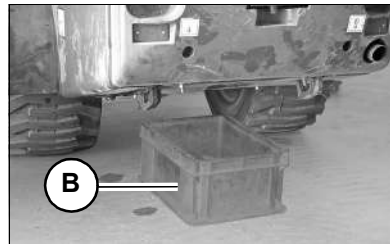

Figure 75 – Waste Oil Collection Container
5. Position a waste oil collection container to catch draining oil (B, Fig. 75).